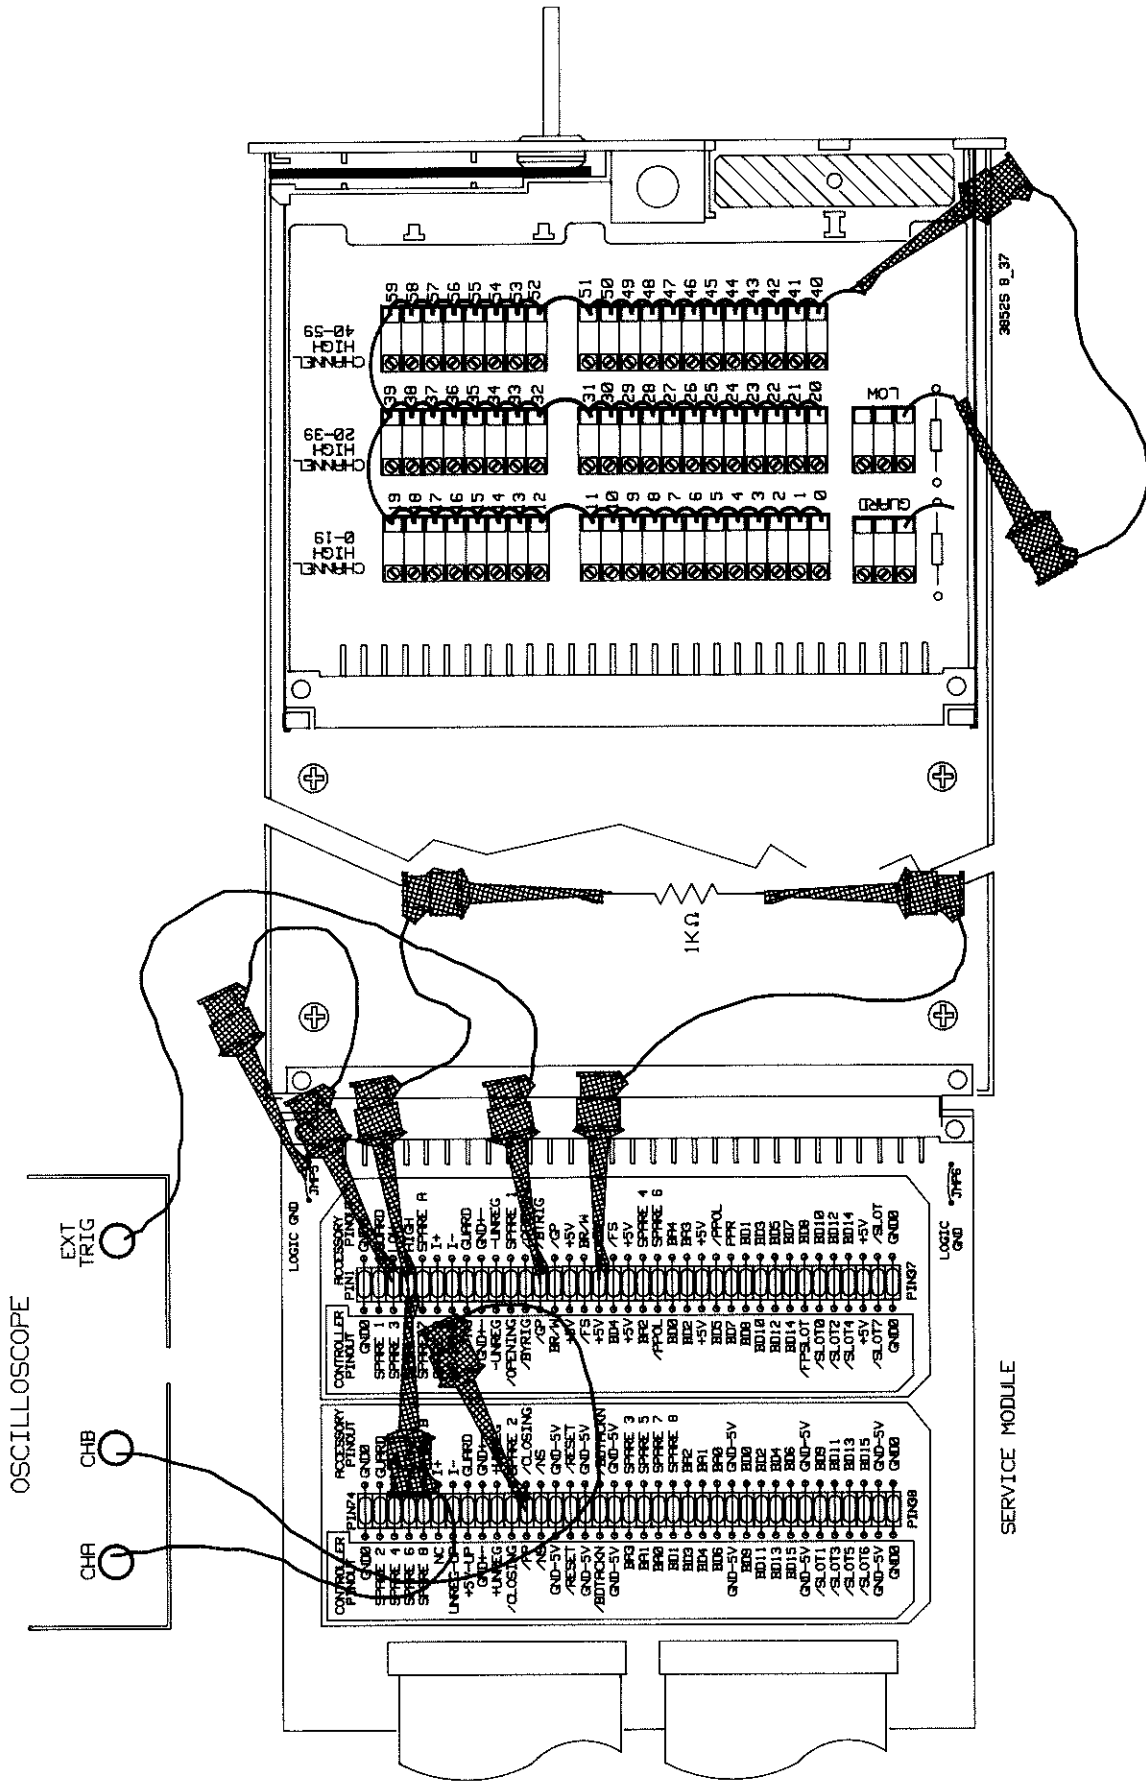

Figure 8-39 HP 44706A Closing Time Set-Up
2. Move the Channel B oscilloscope probe to the CLOSING connection on the service module. The Set-Up is shown in Figure 8-39.